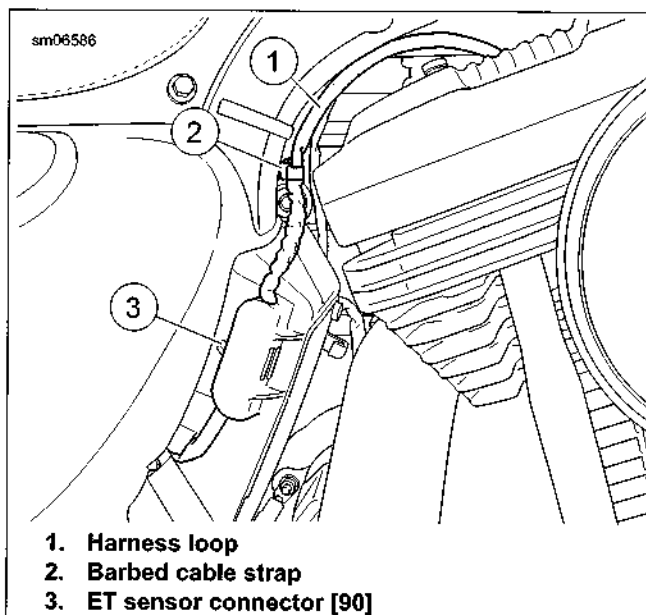
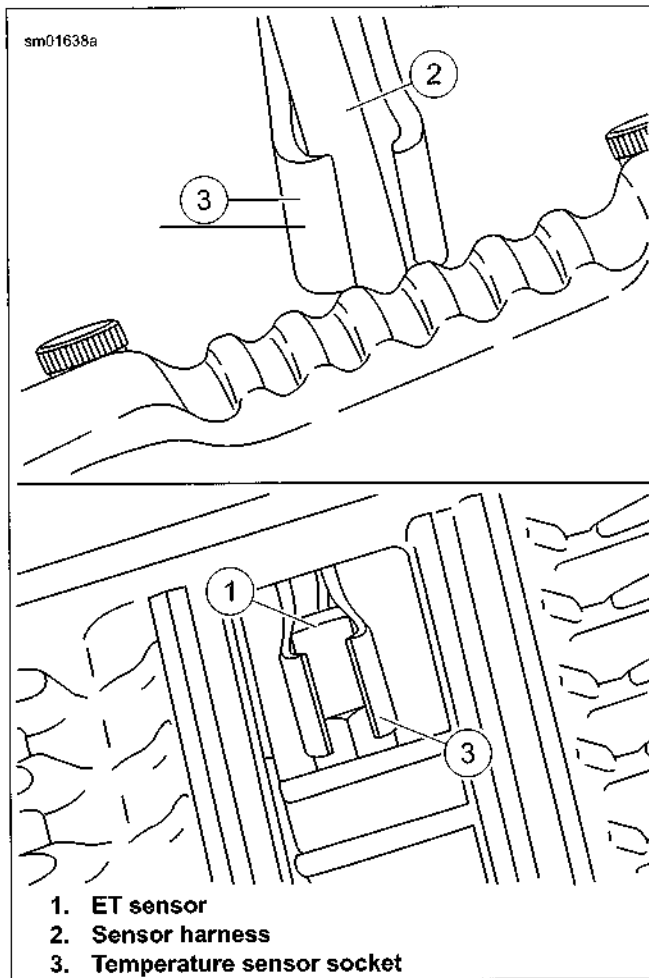
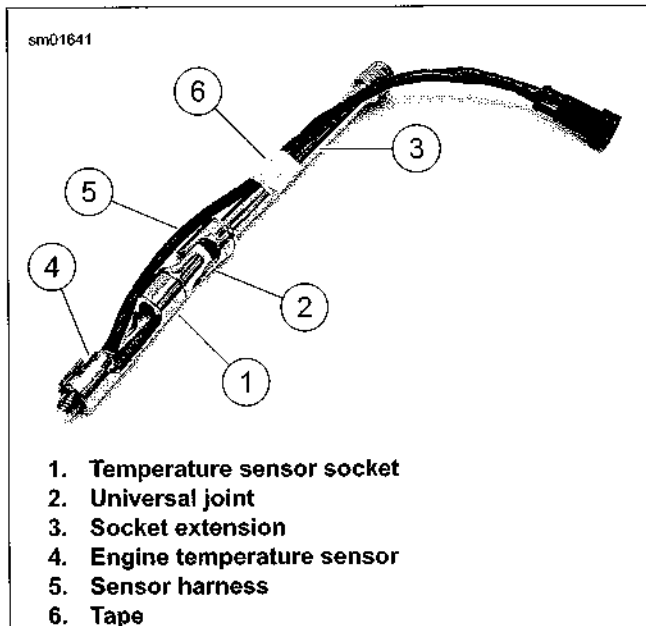

Figure 4-12. ET Sensor Harness
Figure 4-13. Installing ET Sensor Socket
Figure 4-14. Tape ET Sensor Harness to Extension
4. See Figure 4-12. Disconnect the ET sensor connector [90] (3) on right side of ECM caddy.
5. Cut barbed cable strap (2) to free sensor harness from the oil tank mounting bracket.
- b. See Figure 4-13. Fit engine temperature sensor harness (2) into slot in temperature sensor socket (3).
- c. Slide socket down harness, through square hole in center of rear rocker cover assembly and fit onto ET sensor (1).
- d. See Figure 4-14. Once you have installed the temperature sensor socket (1) onto the sensor (4), secure the sensor harness to the socket extension (3) with tape (6) to facilitate removal of the sensor.
- See Figure 4-14. Fit engine ET sensor (4) into temperature sensor socket (1).
- See Figure 4-12. Use a barbed cable strap (2) to secure sensor harness to oil tank bracket. Position cable strap so harness forms a loop (1) between sensor and cable strap.
- Connect sensor connector [90] (3). Secure to ECM caddy.